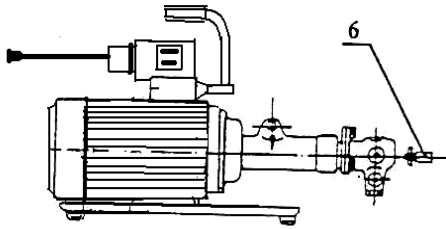
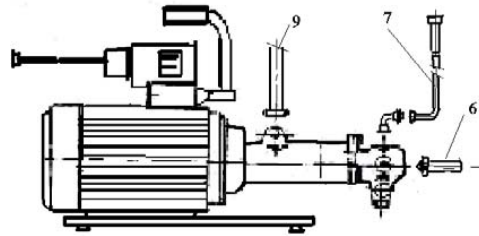

Fig. 1
Fig. 2
a) 1"-EQP-16-6-GO-072, 172 (Version with peripheral electrics "S + EP" – Fig. 1 (Hydraulic part sealing with a radial lip seal "gufero"))
- Spare parts (2x retaining ring-pos. 6544, 2x radial lip seal "gufero"-pos. 4310)
b) 1-QP-16-6-GO-073, 173 (Version with peripheral electrics "S+EP" – Fig. 1 (Hydraulic part sealing with a mechanical seal))
- Delivery differs from the workmanship version a) only by sealing the hydraulic part with a mechanical seal. Radial lip seal "gufero" – pos. 4310 - is not delivered as a spare part.
a) 1-QP-16-6-GO-072, 172 (Version with peripheral electrics and hydraulic accessories "S + EP + HP") – Fig. 2 (Hydraulic part sealing with a radial lip seal "gufero")
b) 1-QP-16-6-GO-073, 173 (Version with peripheral electrics and hydraulic accessories "S + EP + HP") – Fig. 2 (Hydraulic part sealing with a mechanical seal)
- Delivery hydraulic accessories – pos. 7, according to the Par. 1.9.2.a)